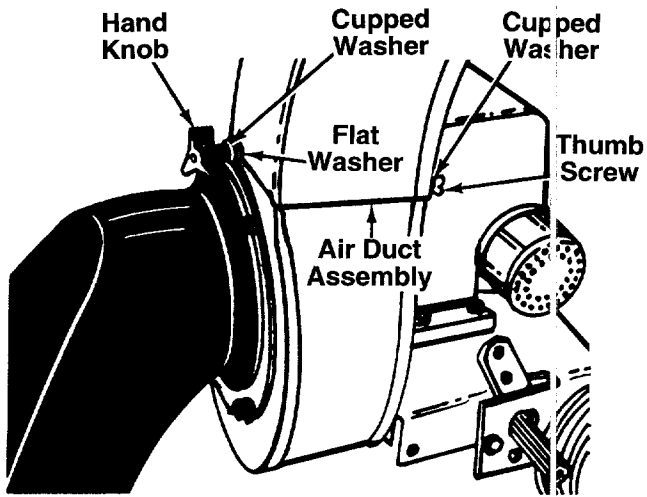

FIGURE 6.
Place air duct assembly over opening on top of housing. Secure front of air duct assembly with one flat washer, cupped washer (cupped side of washer against flat washer) and a hand knob. Secure back (close to engine) with one cupped washer (cupped side against air duct assembly) and thumb screw. See ←figure 6.
1. Remove the bag. Remove the air duct assembly by removing the hand knob, cupped washer and flat washer from the front of the air duct assembly, and the thumb screw and cupped washer from behind the air duct assembly. Refer to figure 6.